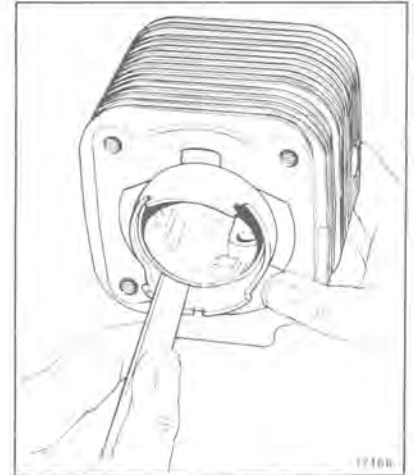

Figure 9-12
- b. Check pistons for roundness, taper, excessive skirt wear, and scoring. Piston skirts must be perfectly round and unscratched to prevent entry of exhaust gases into crankcase chamber. Check piston size, taper, and roundness, using a micrometer (see Figure 9-11). Check clearance between piston and cylinder before re-installing piston (see Figure 9-12). Check tolerances on specification page 2-2.